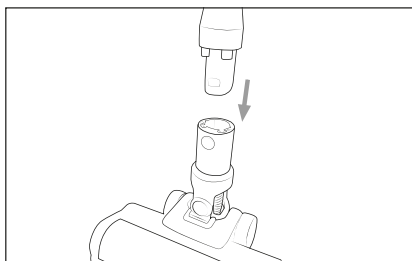

Fig. 2
- 2) Push the suction pipe **23** into the floor brush **20** until it audibly clicks into place (see Fig. 2).